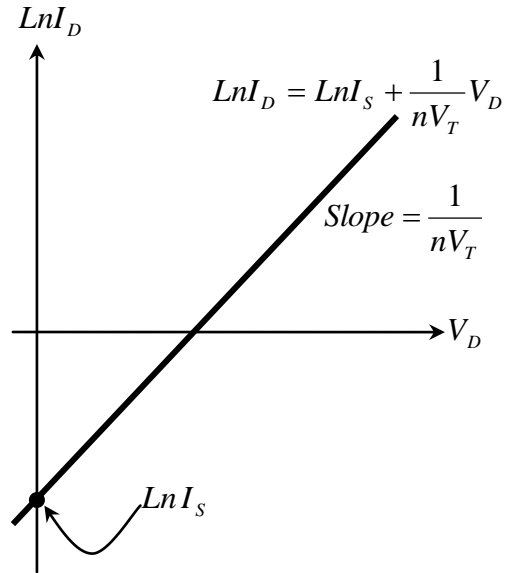

Figure 5. Determination of reverse-bias saturation current (I_S) and emission coefficient (n) of Si-diode
The relationship given in this equation is valid for both forward and reverse bias; however, it fails to be valid when the reverse bias voltage reaches a value that causes breakdown. The parameters I_S and n can be found experimentally. For this purpose the straight line portion of $I - V$ curve on a semi logarithmic plot is extrapolated to intercept the current axis at $V_D = 0$ (see Figure 5). I_S is read from the graph and n is calculated from the slope.
- 5) Find the relationship between m and I_S (see equation in Figure 5).
- 6) Find the relationship between b and n (see equation in Figure 5).